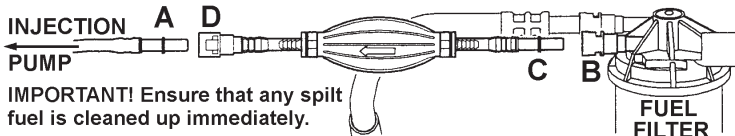

fig. 1
- 3.2. The coupling locking clip will be on the male connection (fig. 1.A). Carefully remove clip and re-install into the female connection (fig. 1.B).
- 3.3. Connect VS055 between the filter head and the pipe (fig. 1) ensuring that both couplers 'snap' securely together making leak-proof connections. Note that the arrow on the hand pump **must** point in the direction of normal fuel flow.
- 3.6. Stop the engine and disconnect VS055 from fuel line and filter head. Remove the two locking clips from the male connectors (fig. 1.A & C) and re-install into female connectors (fig. 1.B & D), as in 3.2.